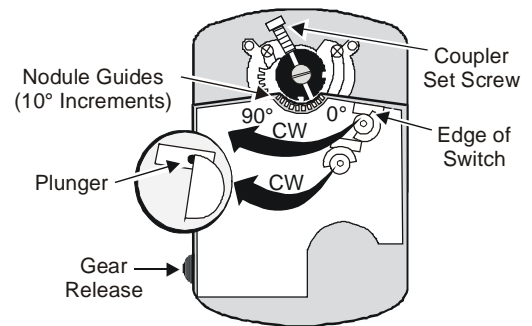

Figure 7: Switch Angle Settings
To change the angle of Switch S1 to 20°, refer to Figure 7 and proceed as follows:
2. Rotate Switch S1 CW, and align the edge of the switch with the plunger until the plunger rises. (See Figure 7.)
To change the angle of Switch S2 to 70°, refer to Figure 7 and proceed as follows:
2. Rotate Switch S2 CW, and align the edge of the switch with the plunger until the plunger rises. (See Figure 7.)